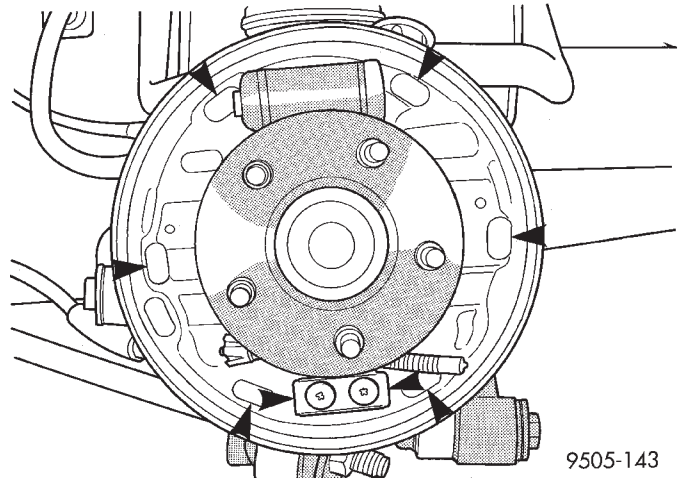

Fig. 73 Shoe Contact Areas on Support Plate
(1) Lubricate the eight brake shoe contact areas (indicated by arrows) on the support plate and anchor using Mopar Multi-Purpose Lubricant or equivalent (Fig. 73).